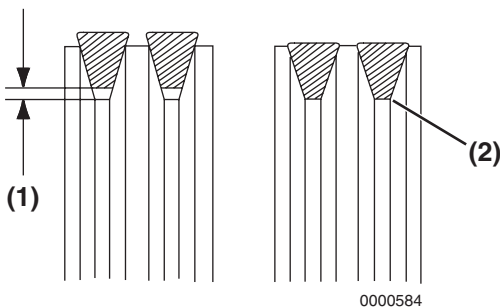

Figure 8-14
5. Inspect the condition of the V-belt. There must be clearance (**Figure 8-14, (1)**) between the V-belt and the bottom of the pulley groove. If there is no clearance (**Figure 8-14, (2)**) between the V-belt and the bottom of the pulley groove, replace the V-belt.